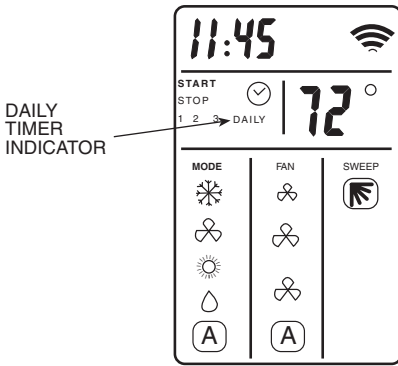

Fig. 9 — Daily Timer Indicator on Remote Control Display
3. Press and hold the SET button until the word “DAILY” appears on the display. See Fig. 9.